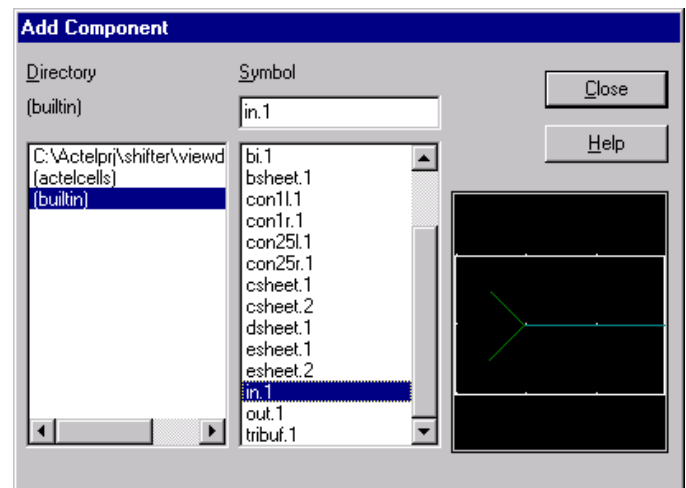

Figure 16 - adding hierarchical connectors
- Select builtin from the library list and select in.1 from the symbol list (Figure 16).